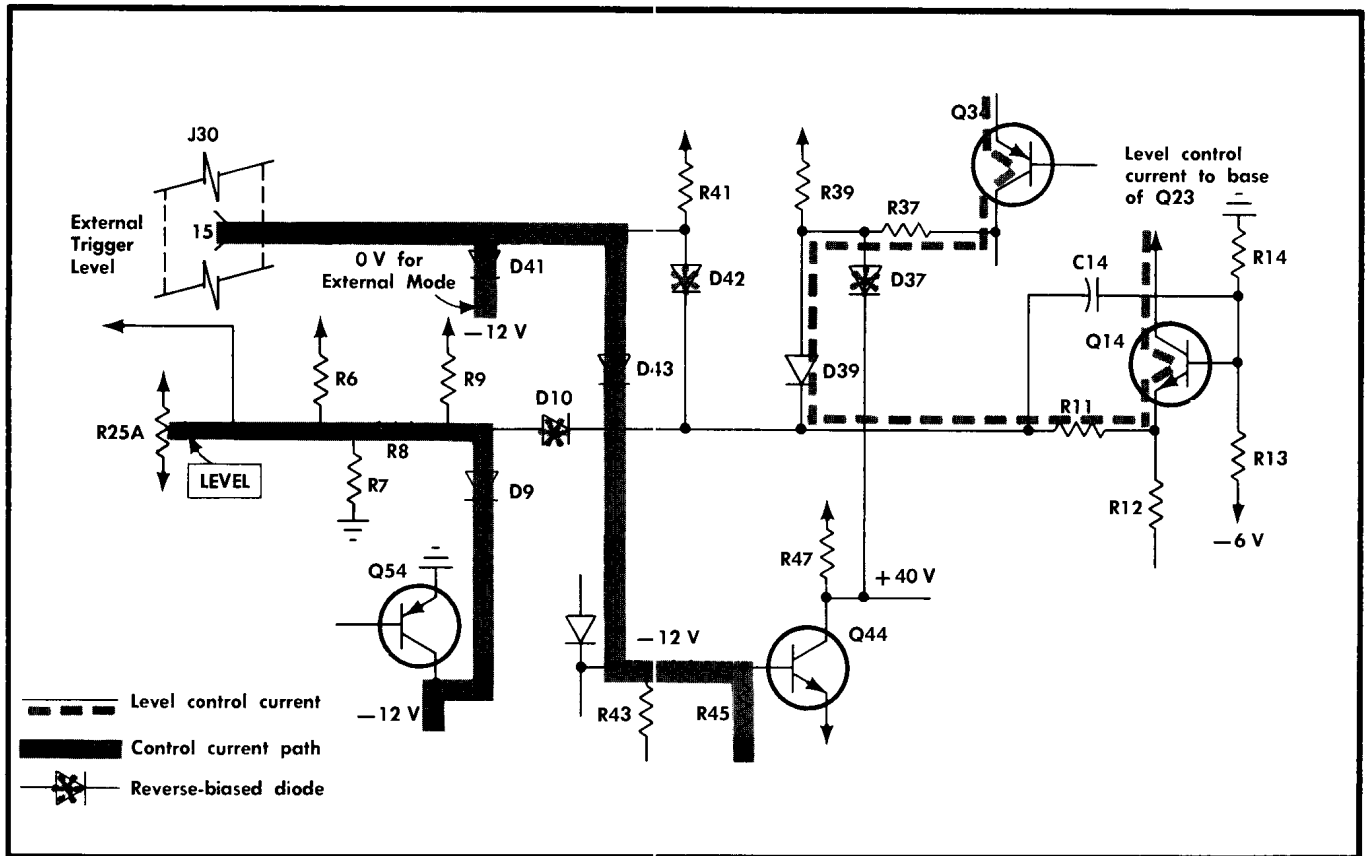

Fig. 3-9. Trigger level current for auto triggering (Manual Mode, Seek Mode or External Mode operation).
**Manual Mode.** The Trigger Function switch, SW50, controls Sweep Trigger circuit operation for the Manual Mode of operation. In the INT-AUTO position, D52 is disconnected from the Trigger Mode Logic stage. SW50 also connects the base of Q54 to ground to shut off the Trigger Latch Circuit and the collector of Q54 goes negative. This forward biases D9 and drops the voltage level at the anode of D10 to a level that reverse biases it. Fig. 3-9 shows the condition of the logic diodes for auto triggering. The